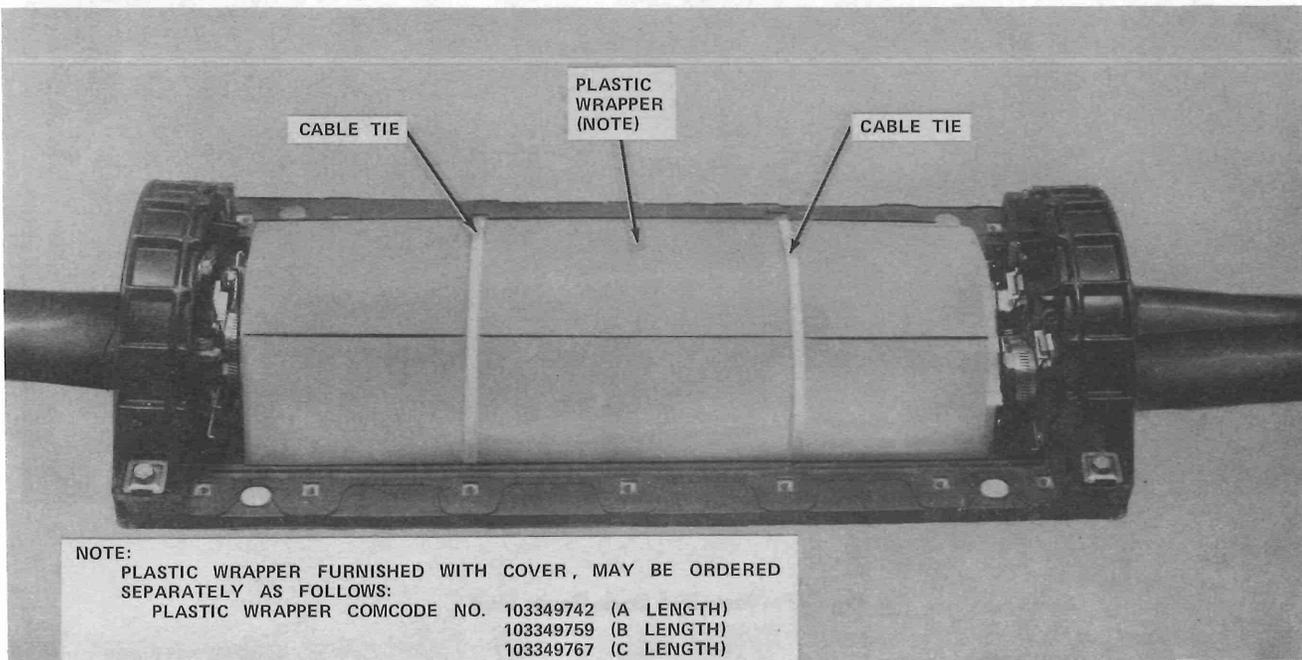

Fig. 38—Completed Splice
- (a) If the back cover is used as outlined in Part 5, wrap the splice as shown in Fig. 38.